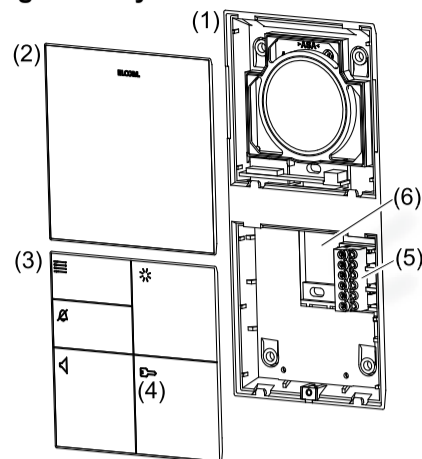

Figure 1: Design and layout of the device
- Insert the stripped cable into the housing (Figure 1, 6).
- Fasten the bottom part of the video intercom (Figure 1, 1) to the wall with screws.
The connection cable may only be located in the terminal area (Figure 1, 6).